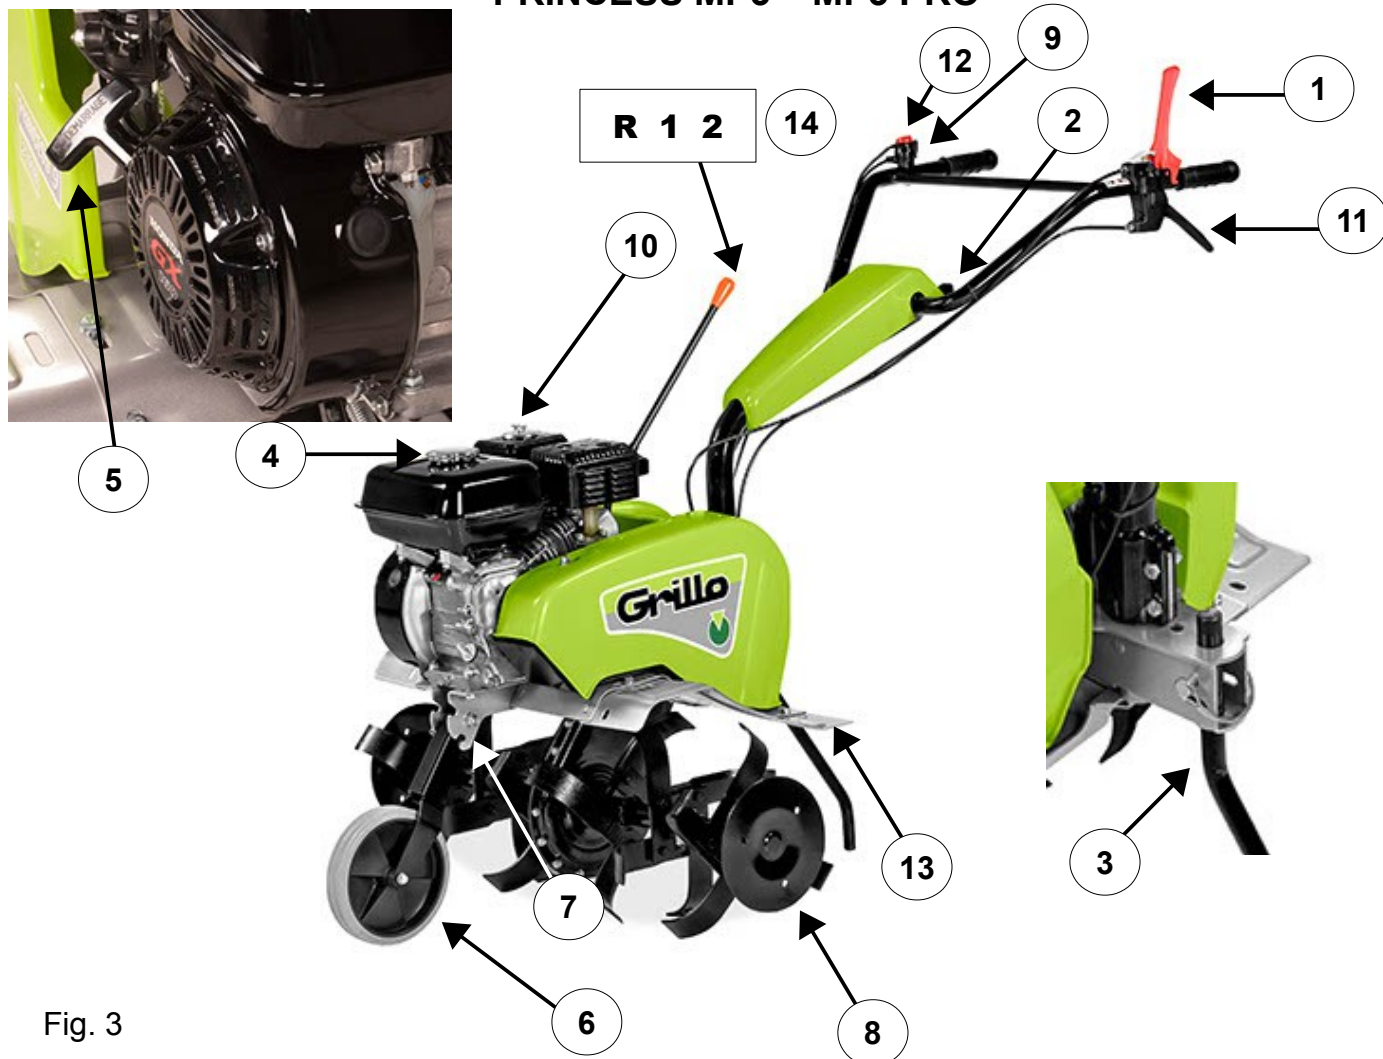

Fig. 3
3. Remove the spur by removing the retainer (fig. 3, no. 3).